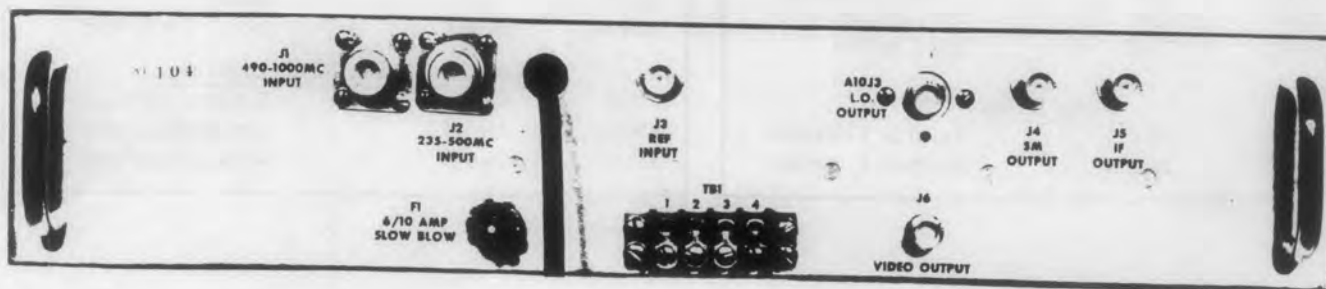

Figure 1-2. Type 770A Receiver, Rear View
1.2.1 The rear apron of the receiver is shown in Figure 1-2. The antenna input jacks located on the rear apron (one for each band) are type N connectors. The remaining rear apron jacks are type BNC connectors. The audio output is available at the terminal strip, TB1. The rear apron additionally contains the 6/10 AMP line fuse F1.